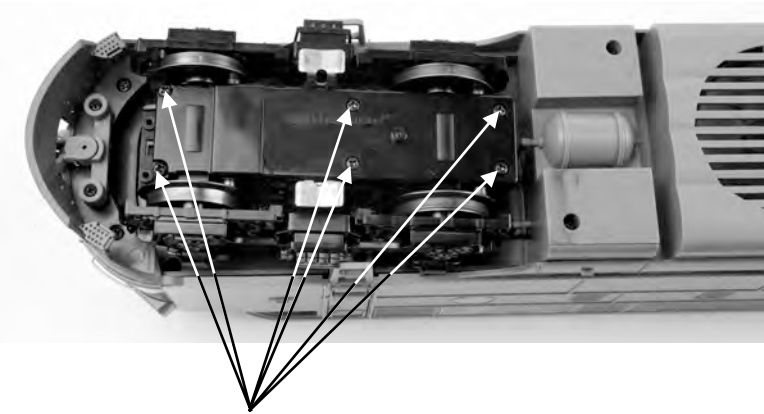

Figure 25: Truck Bottom Plate Mounting Screws
1. Turn the engine upside down and remove the truck bottom plate mounting screws as seen in Figure 25.